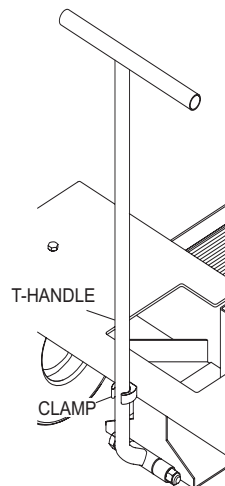

**Figure 7. T-Handle Installation**
2. Install the T-handle as shown in Figure 7 and tighten the bolt.